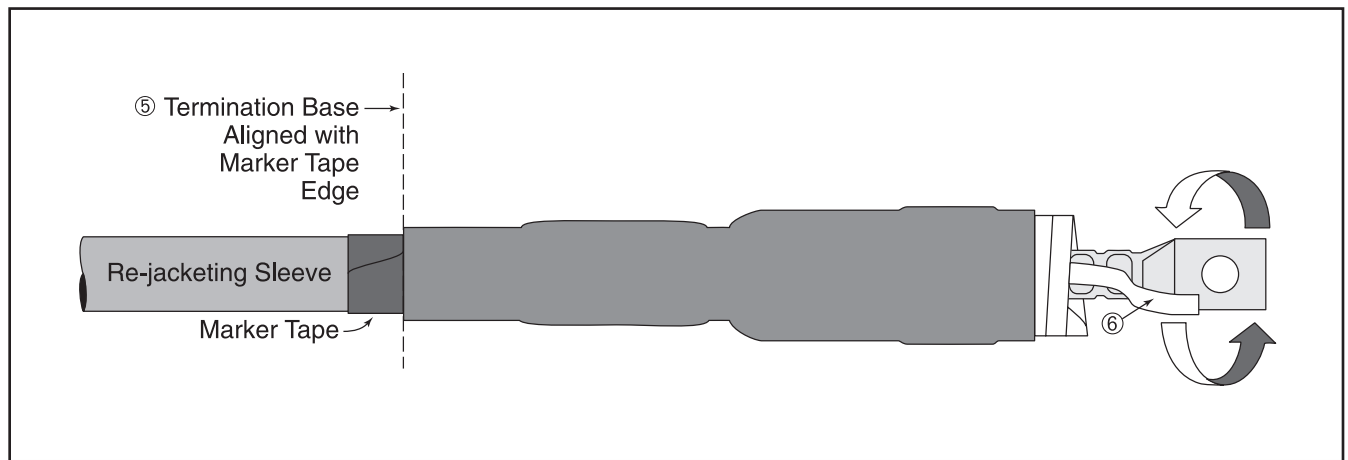

Figure 15
- (c.) Align the base of the termination (not the plastic core) with the installation marker tape as shown (Figure 15).
- (d.) Grasp the loose white core ribbon. Pull and unwind counter clock-wise around cable end (Figure 15).
- A. Position skirted insulator over previously installed tubular termination as shown (*Figure 15*).
- B. Align skirted insulator body (not the core) to install 3.5" (89 mm) from base of tubular termination (⑦ *Figure 15*).
- C. Grasp the loose white core ribbon (⑧ *Figure 15*). Pull and unwind, counter clock-wise, around cable phase end.